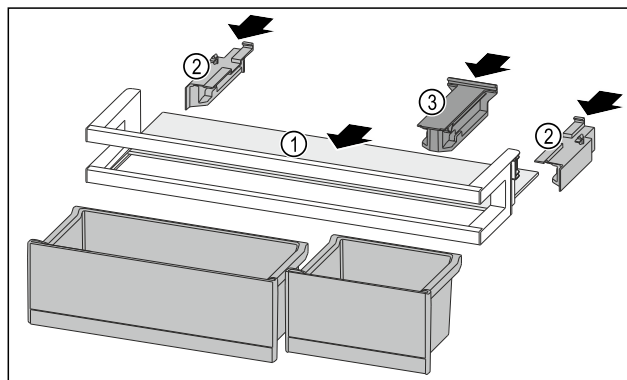

Fig. 201
- Push the shelf Fig. 201 (1) into the side recesses.
- Insert the side parts Fig. 201 (2).
- Insert the holding part Fig. 201 (3).